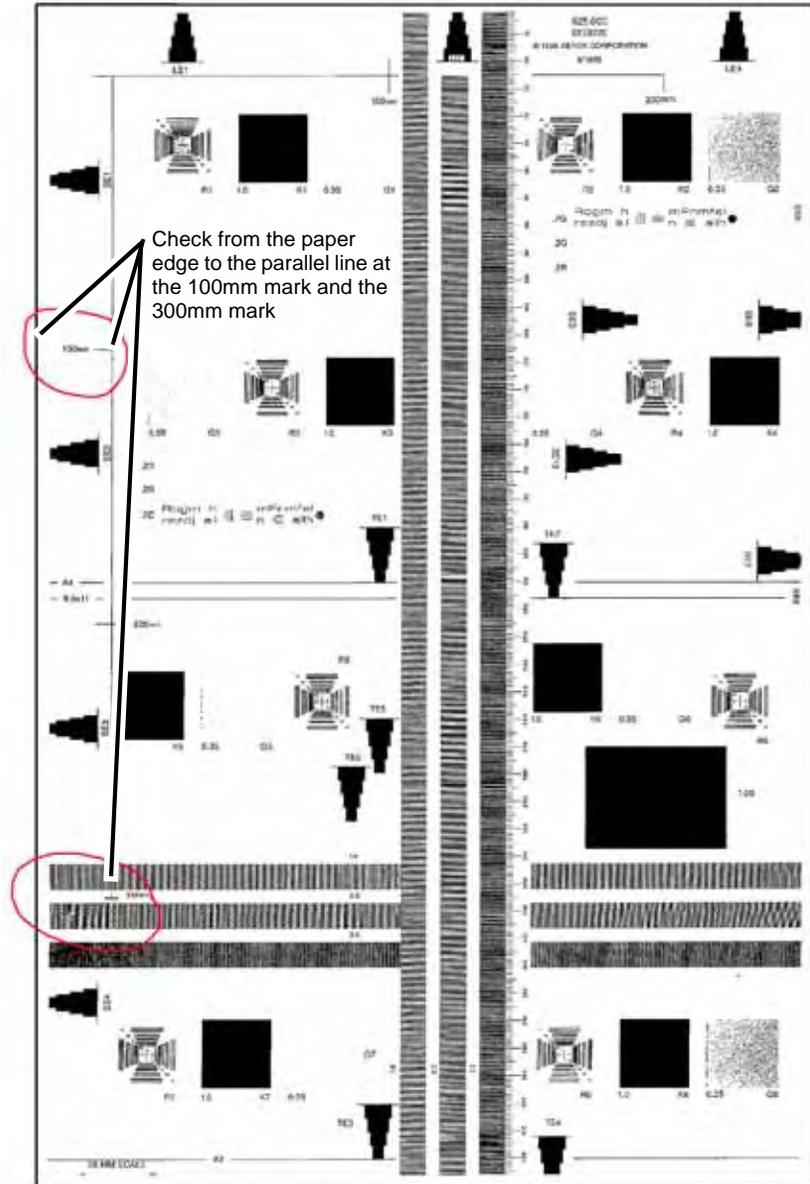

Figure 1 Checking the Skew
5. Check that the difference in the distance between the side and the Edges at the 100mm mark and the 300mm mark in the 3 copies is within 00.5mm. (Figure 1)